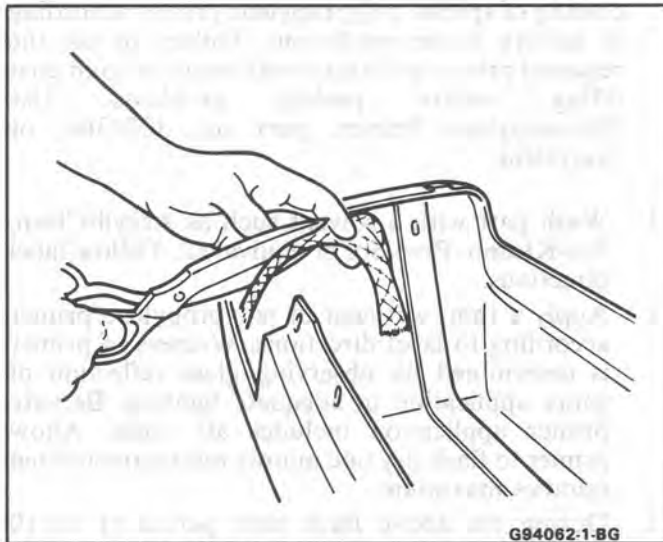

Fig. 22-Cutting Fiberglass Cloth to Size
- c. Cut a piece of fiberglass cloth large enough to overlap the break 38 mm (1-1/2") (Fig. 22).